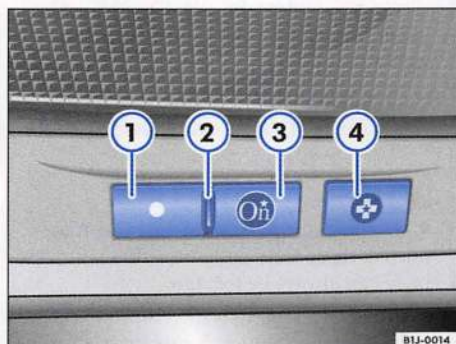

Fig. 3 OnStar services button (blue OnStar button)
⇒ fig. 3 (3), and you are connected to an OnStar Advisor.